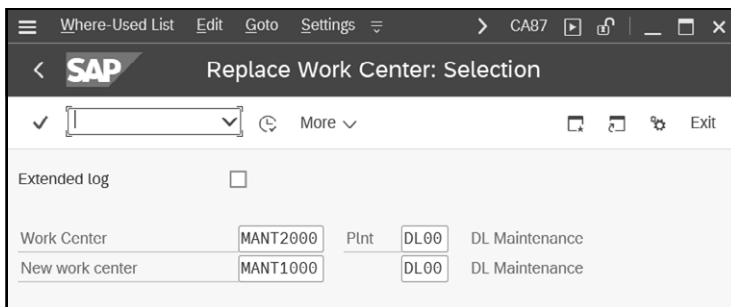

Figure 5.18: Transaction CA87: Replace Work Center
- Transaction CA87 to replace work centers (see Figure 5.18)